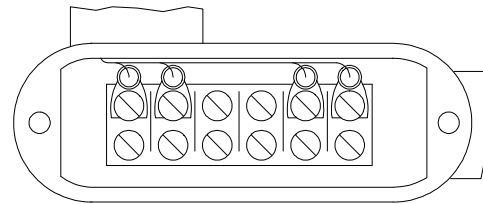

Figure 9. Condulet Wiring
2. Remove the cover from the condulet and observe the wires connected to the terminal strip, Figure 9.